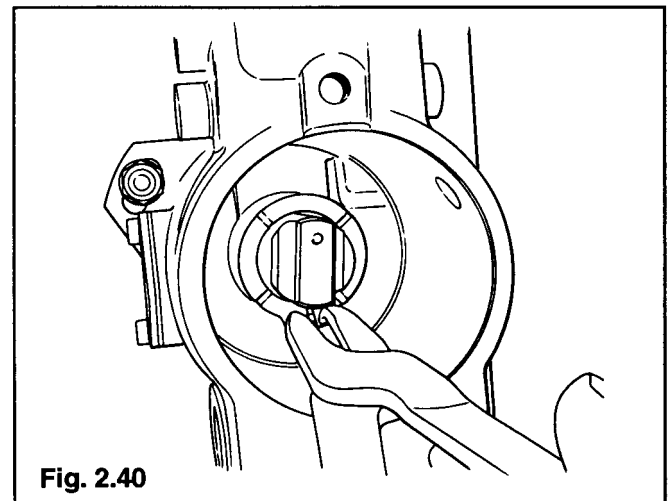

**Fig. 2.39a**
**STEP 39** Remove drive shaft thrust spring and thrust washer as shown below in Figures 2.39a and 2.39b.